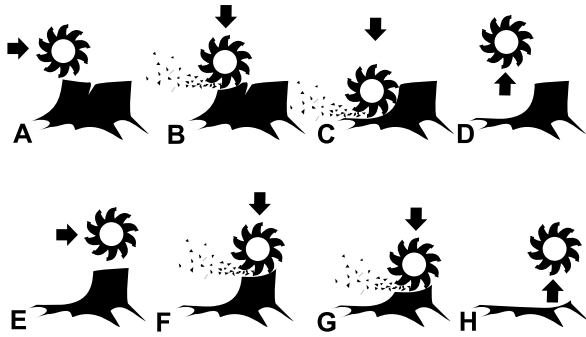

Figure 9
5. Swing the cutting wheel to one side (Figure 8), then lower it approximately 1 to 2.5 cm (1/2 to 1 inch) into the front-top corner of the stump. Swing the cutting wheel back and forth, lowering the cutting wheel approximately 1 to 2.5 cm (1/2 to 1 inch) before each sweep, until you have removed the front portion of the stump to ground level (A through D in Figure 9).
7. Repeat steps 5 and 6 until you have completely removed the stump (E through H in Figure 9).